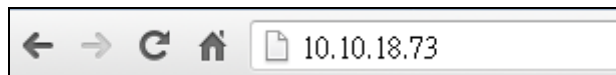

Figure 4-25: IEI iMAN Web Address
Step 2: On the remote management console, open a web browser. Enter the managed system IP address in the web browser (**Figure 4-25**).